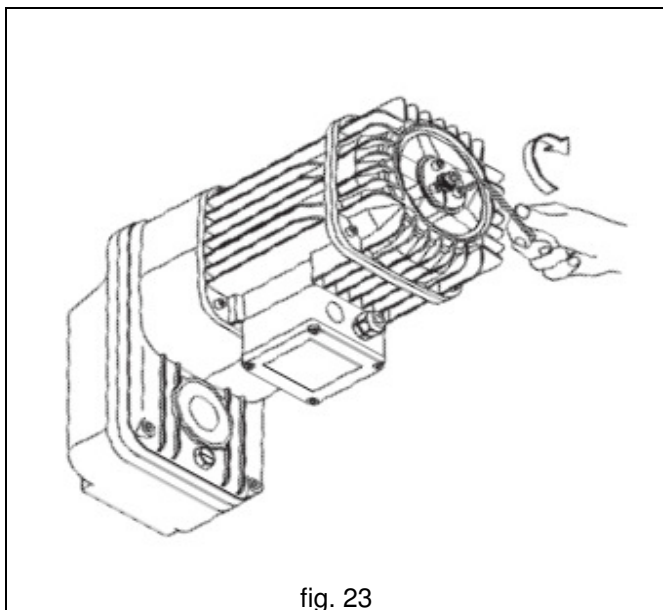

fig. 23
6. Reset the three screws into their original housings on the ring nut, fastening them onto the block (fig. 23);